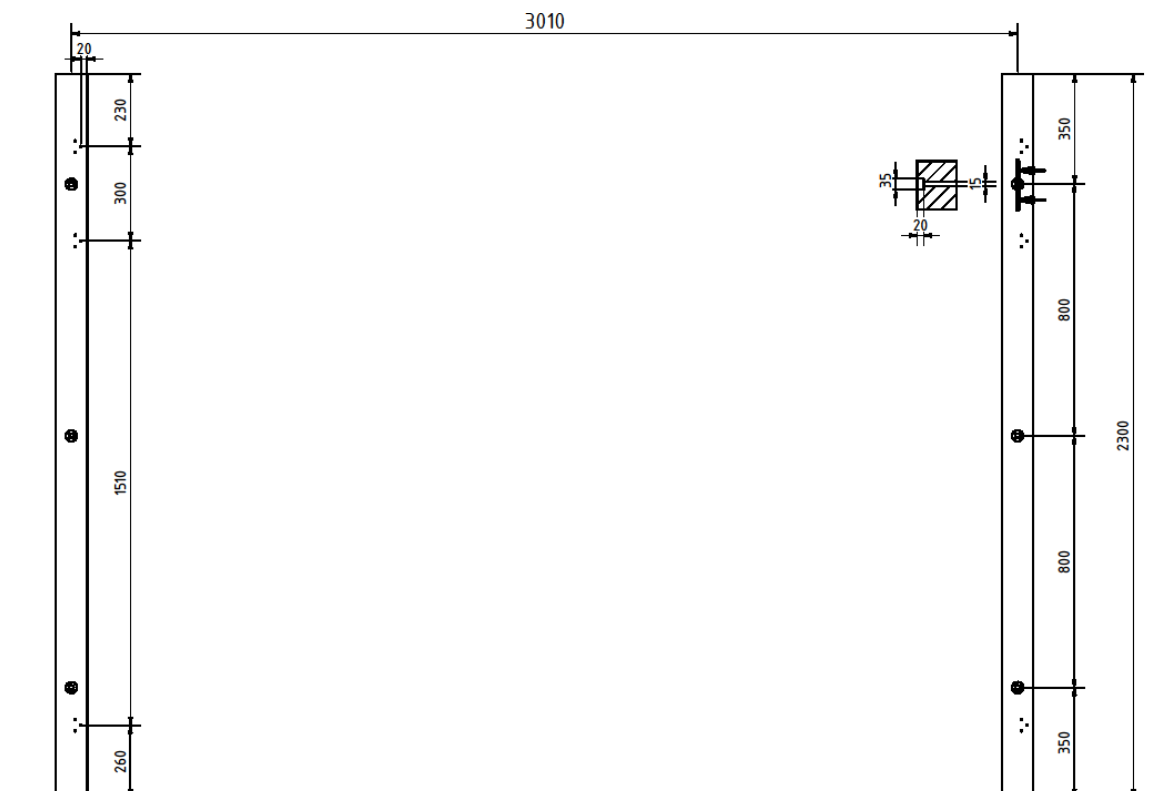
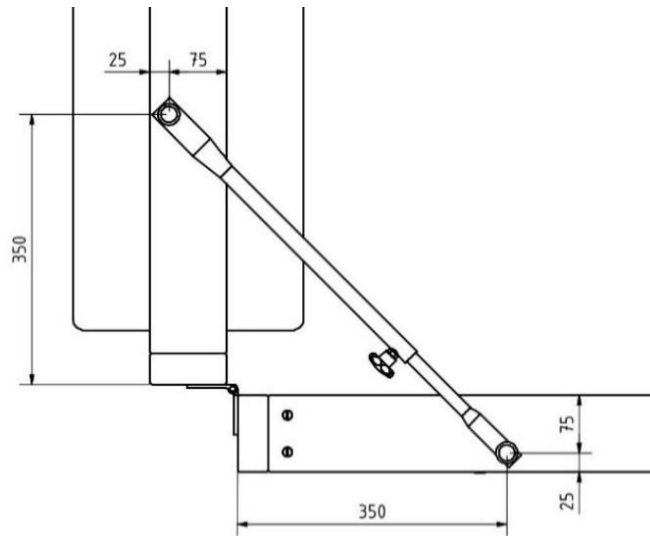

Figure 2: Drilling dimensions for the hinges (on the left) and wall beams (on the right)
Figure 3: Drilling dimensions for the telescopic arm
To assemble the individual climbing frame sections ①, the first step is to attach the beams ② to the wall. Check for potential obstacles, such as pipes or electrical cables. We recommend using the drilling dimensions shown in figure 2, provided there are no interfering objects. If there are, the drilling points should be slightly offset.
Use the hex-head wood screws ③, washers ④ and plastic wall plugs ⑤ to mount the beams. The layout and distances between the 14-mm-diameter holes to be drilled into the wall are shown in figure 2. Drill the holes for the telescopic arm in the top of the first two climbing frame sections from the left (as shown in figure 3).